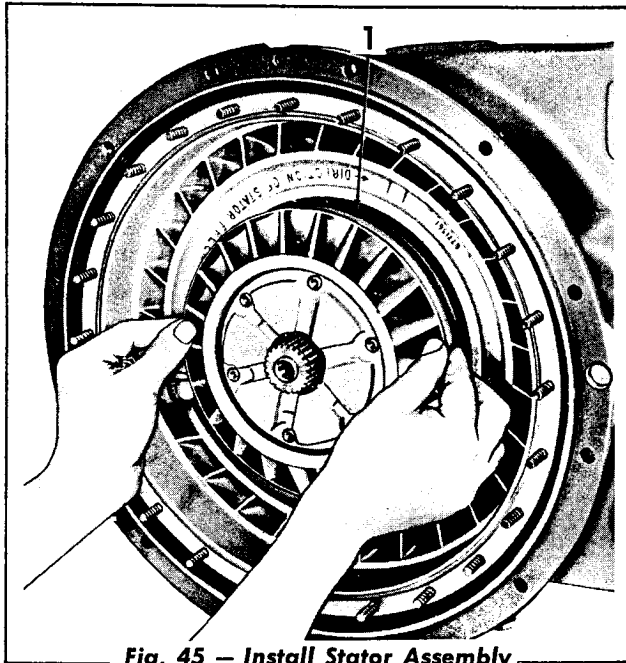

Fig. 45 — Install Stator Assembly
9. Grasp the stator assembly (Fig. 45). Hold